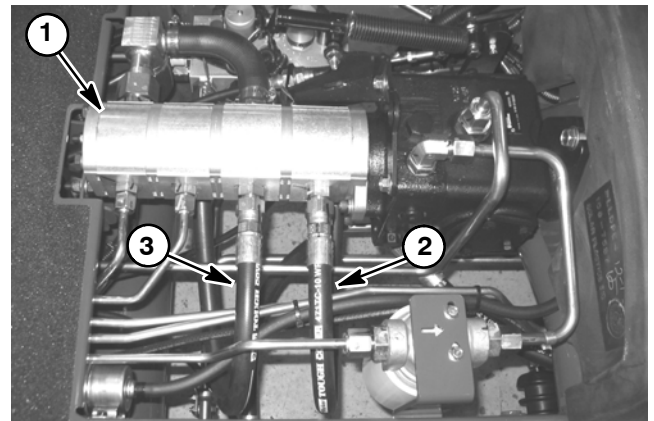

Figure 40
5. Identify suspected bad pump section to be tested (Fig. 40). Thoroughly clean junction of gear pump fitting and hydraulic outlet hose. Disconnect hose from pump fitting: